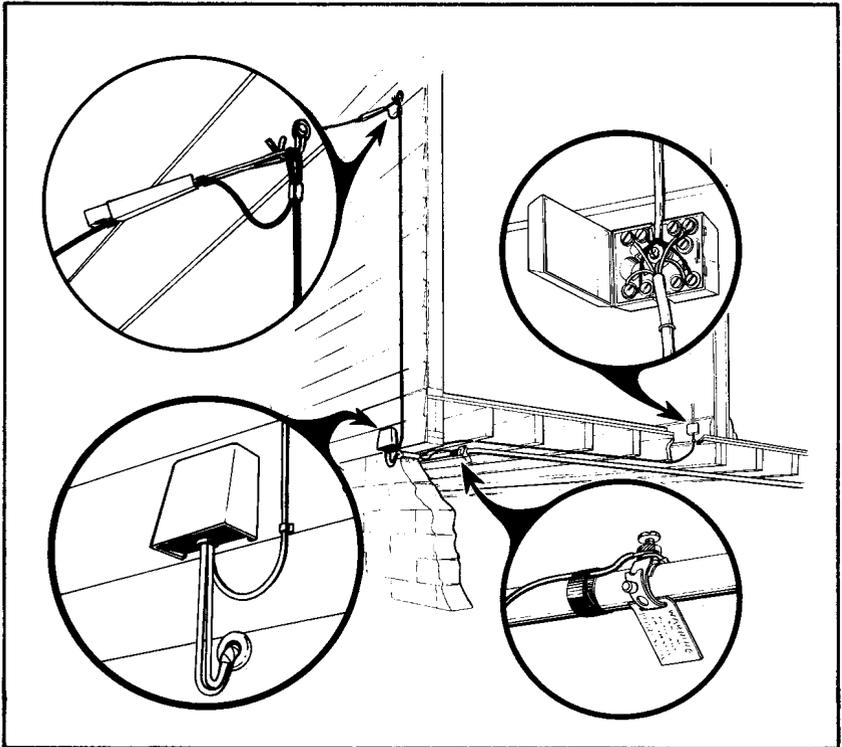

FIGURE 4. Typical Wiring Routes
- (1) In unfinished buildings, such as apartment houses, multi-unit dwellings or other living quarters.
- (2) When service orders have been issued in advance, pending the availability of facilities to connect service.
3.02 Figure 4 and Table A show various points which should be considered when selecting routes for wire and cable.